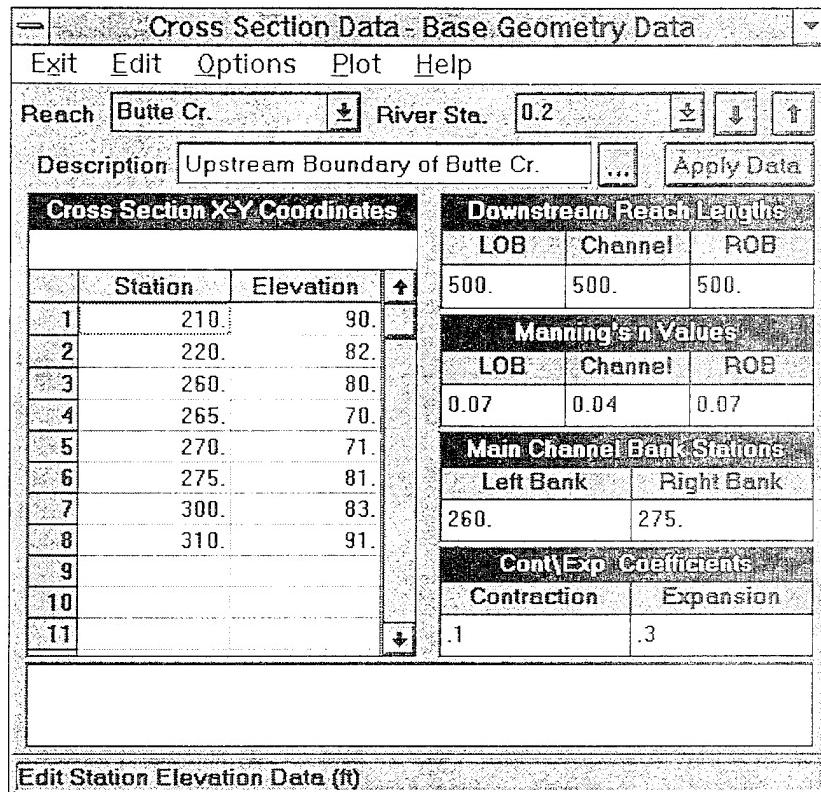

Figure 4.6 Cross Section Editor with river mile 0.2 of Butte Creek
3. Enter all the data for this cross section as shown in Figure 4.6.